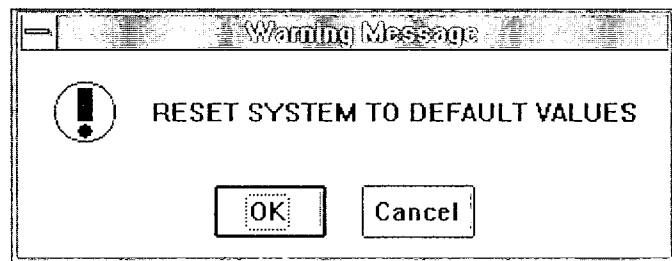

Figure 2-2. Reset Warning Message
1. Select **Reset**, located near the top of the screen. The warning message shown in Figure 2-2 is displayed.